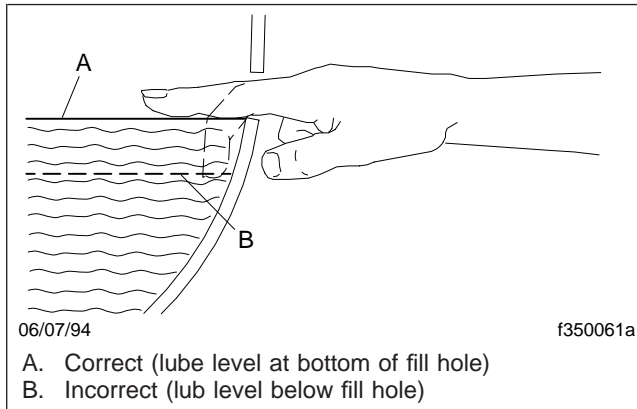

Fig. 3, Axle Lubricant Level Inspection
IMPORTANT: A lubricant level close enough to be seen or touched is not sufficient. It must be level with the bottom of the fill hole (see **Fig. 3**), or the top of the standpipe opening.
- Lubricant should be level with the bottom of the fill hole (see **Fig. 3**), or with the top of the stand-